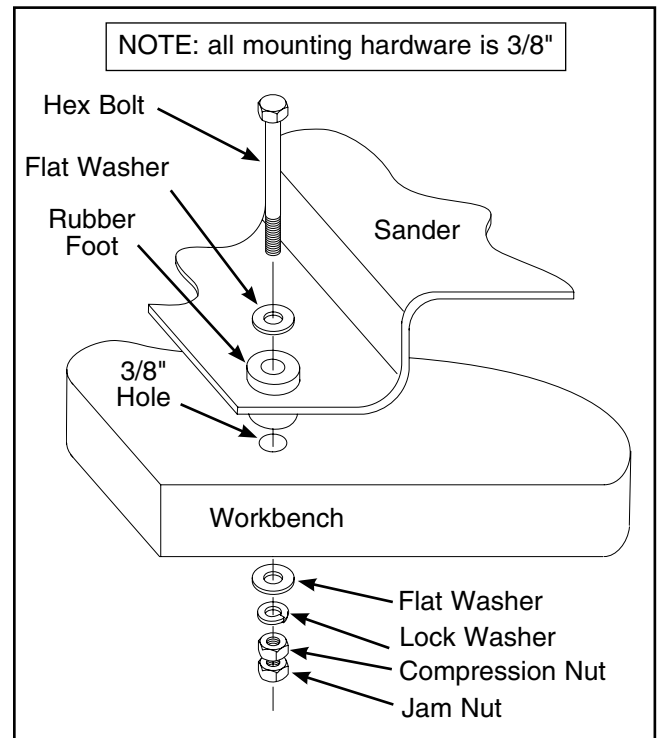

Figure 24. Sander mounting layout.
4. Install all mounting hardware in the order as shown in **Figure 24**, and tighten the compression nuts just until the rubber feet start to swell slightly.